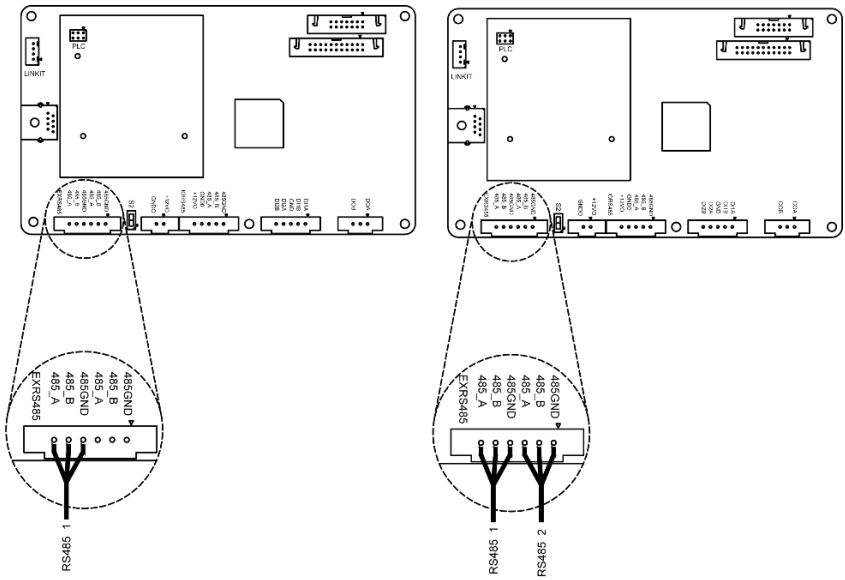

Figure 4-11 RS485 communication cable connection
Connect RS485 communication cables with the help of 6-pin terminal to 485 communication module, referring to figure 4-11 (1) for a single inverter RS485 communication connection and figure 4-11 (2) for network configuration. (Wiring methods of new and old communication boards are the same, here we take the new one for instance as below).